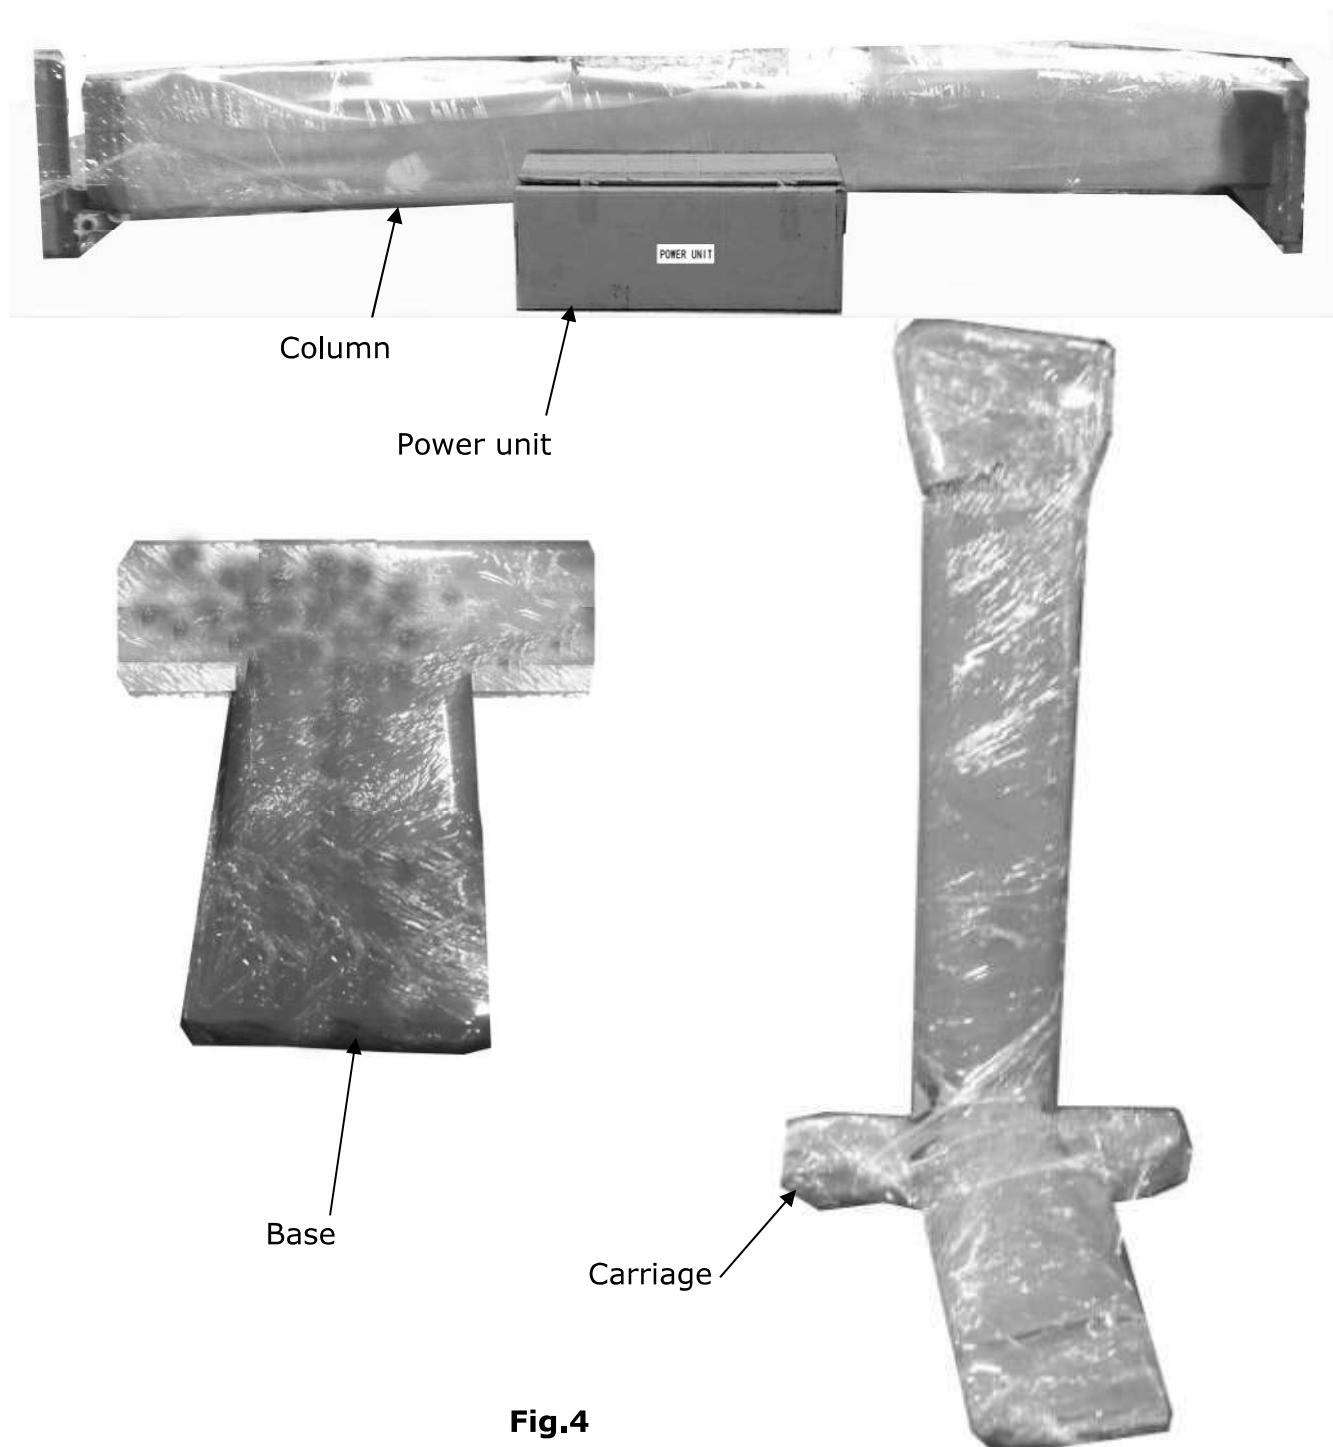

Fig.4
1. Packaged lift and hydraulic power unit (See Fig. 4)